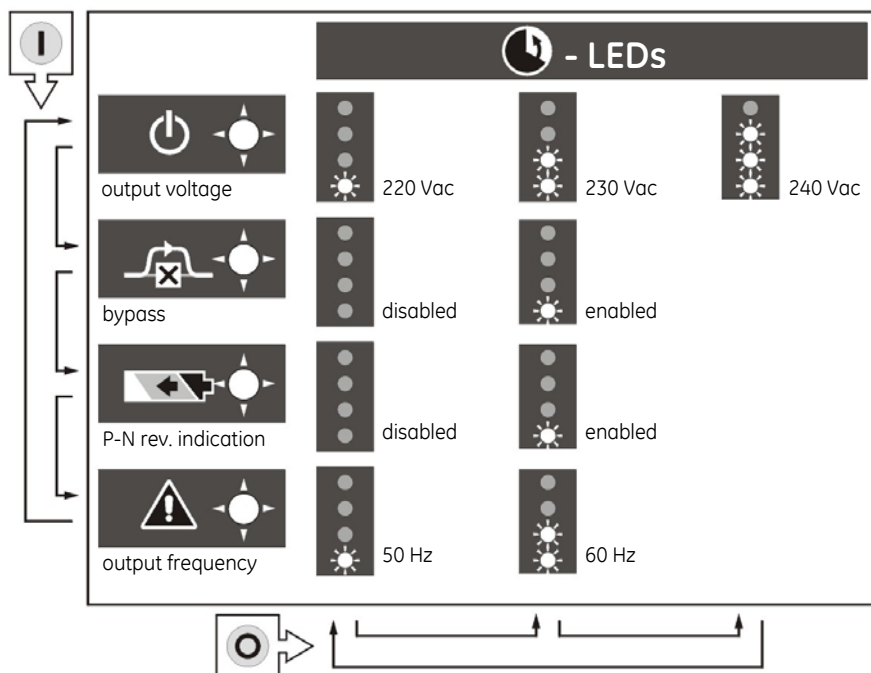

fig. 4.5: setup menu
- 2 Scroll through the four functions with keypad 'I', one of the LEDs 'operation', 'on bypass', 'on battery' or 'alarm' will blink, indicating which function has been selected (see fig 4.5).